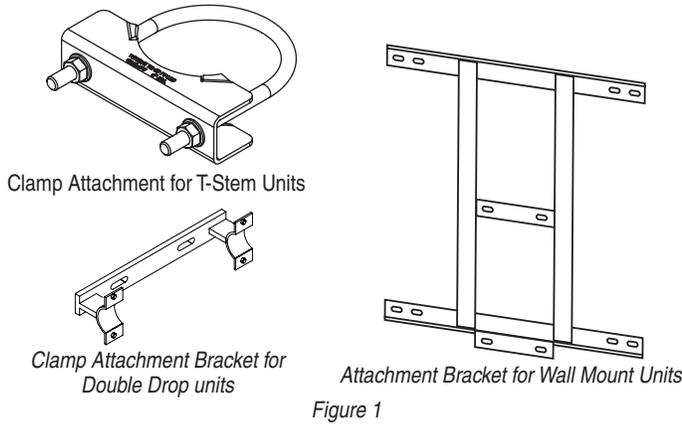
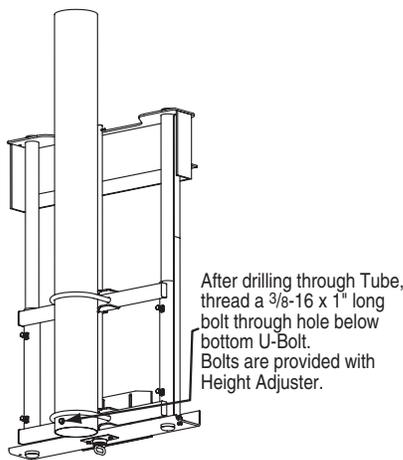

Figure 1
Figure 2
- ① If not already attached, bolt any necessary attachment brackets to the height adjuster mounting tubes (see Fig. 1). If height adjuster is attaching to a T-Stem, the saddle portion of the clamp goes over the height adjuster mounting tube so that the tube rests between the saddle and mast. The saddle is held in place by the U-bolt. Nuts that attach to the U-bolts and saddle brackets should be tightened to 85 ft-lbs. On T-Stem backstops, after the height adjuster is secured in the correct position, drill the mast tube just below the bottom U-bolt and install a  $\frac{3}{8}$ "-16 x 1" self-tapping safety screw (see Fig. 2).